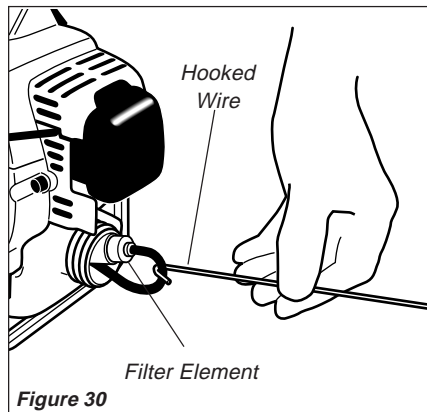

Figure 30
- Use a hooked wire to extract the fuel filter from inside the fuel tank (Figure 30). Inspect the fuel filter element. If it shows signs of contamination from debris, replace it with a genuine Shindaiwa replacement fuel filter element. Before reinstalling the filter, inspect the fuel line. If you discover damage or deterioration, the unit should be removed from service until it can be inspected by a Shindaiwa-trained service technician.